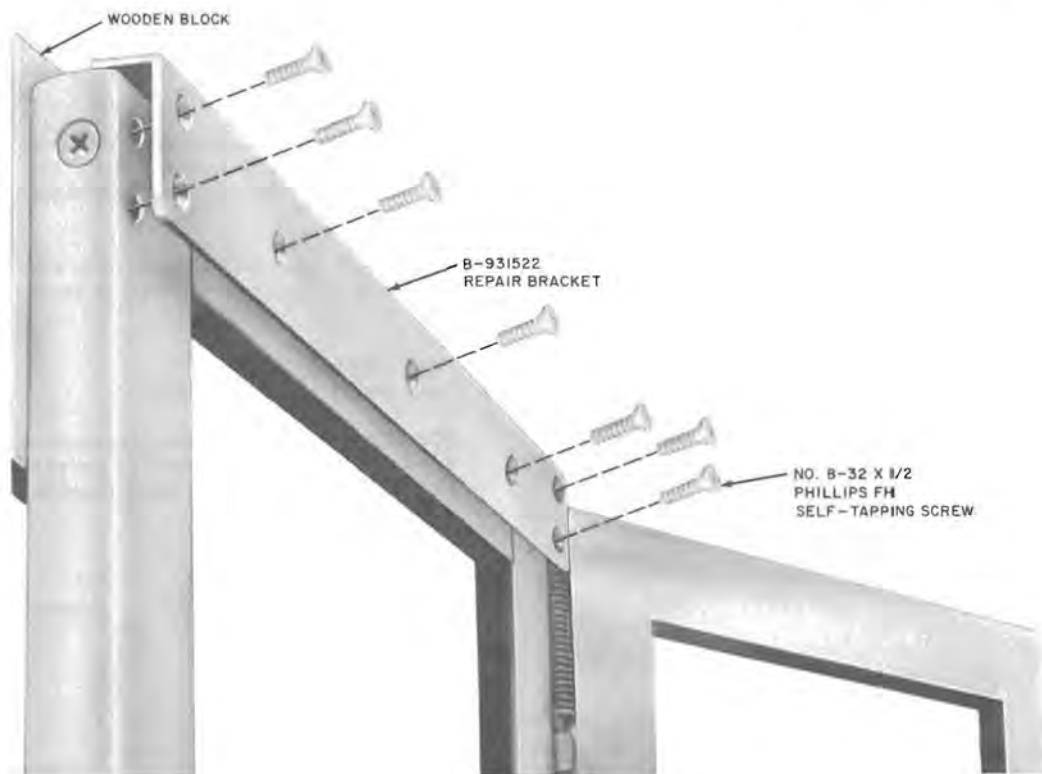

Fig. 20—Installation of Door Repair Bracket
- 4.07** Replace door sections that have broken mitered joints. Repair solid-type (one piece) sections (Fig. 20). Fracture usually occurs because of misuse, improper adjustment, or because booth is not level. Check the cause and repair as follows: